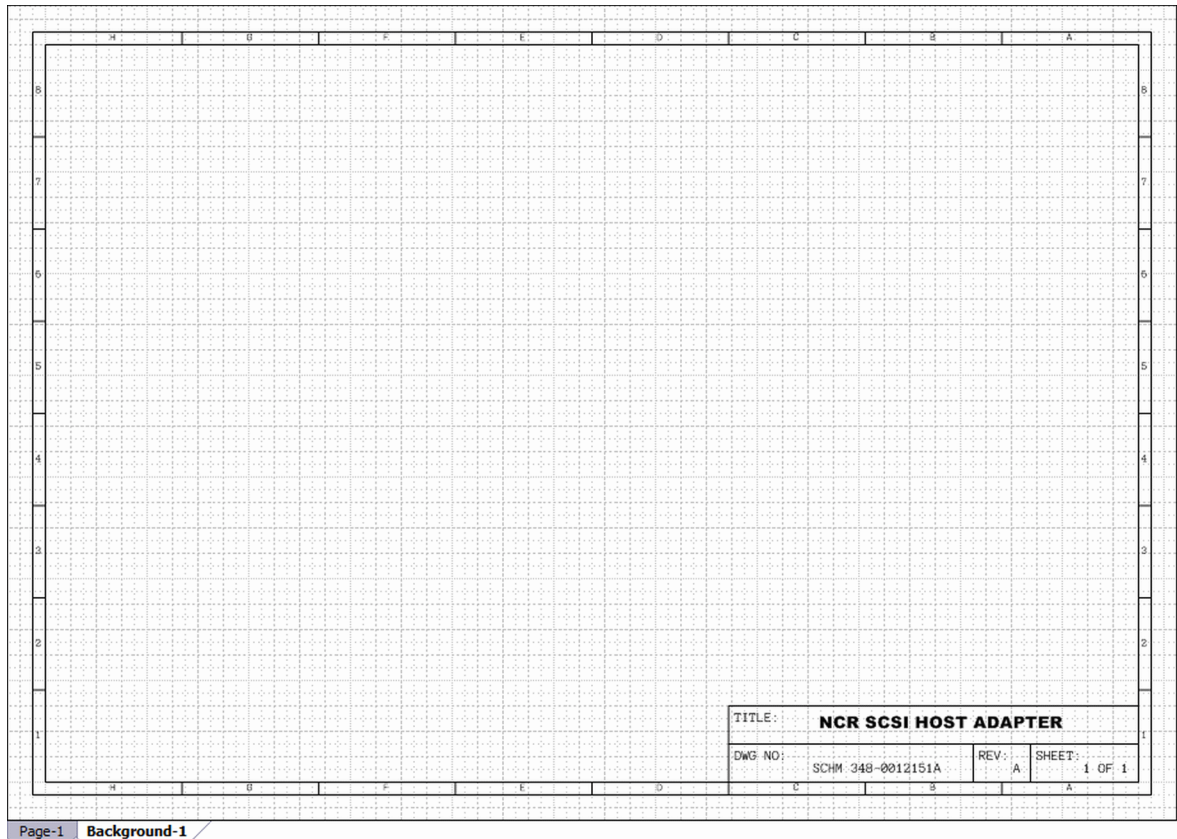

Figure 3.8 Background page with grid references and title block.
9. Create vertical and horizontal lines of length 0.125 such that they fit into the space between the two rectangular boxes (refer to Figure 3.8). For the vertical lines, position them at the following X locations: 1.8438, 3.1875, 4.5313, 5.875, 7.2188, 8.5625, and 9.9063. For horizontal lines, their Y locations are: 1.4063, 2.3125, 3.2188, 4.125, 5.0313, 5.9375, and 6.8438.